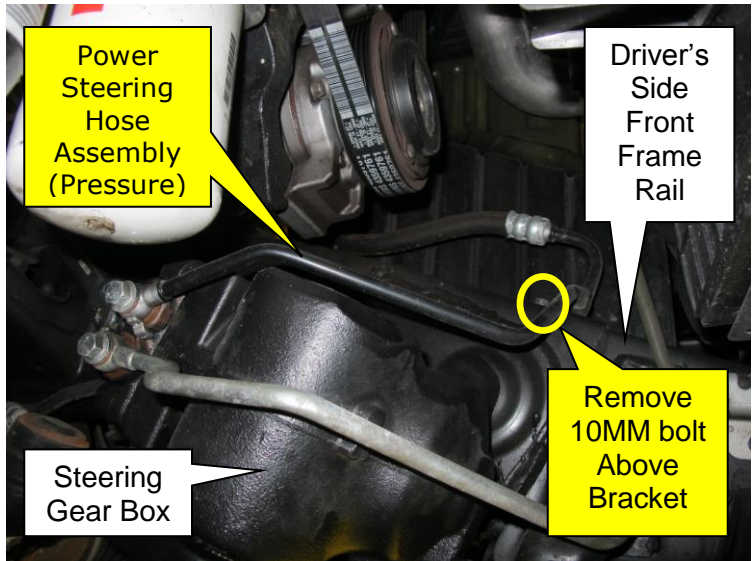

Figure 4
3. Remove Power Steering Hose Assembly (Pressure) bracket bolt (Figure 4).